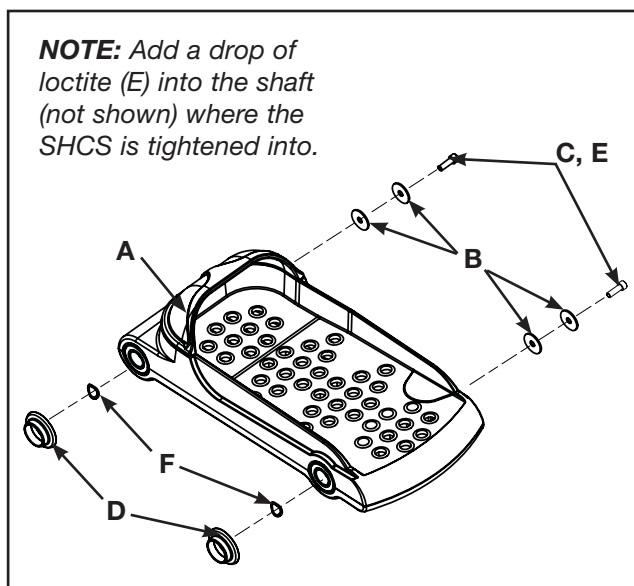

Figure 2 (left foot assembly)
- A. Turn the main power switch above the power inlet to the off (O) position.
- A. Install the new spacers (D) and wave washers (F) onto the foot plate shaft as shown in Figure 2.
- B. Slide the new foot plate (A) onto the foot plate shaft.
- C. Place a drop of loctite (E) on one of the SHCS (C). Place another drop of loctite in the shaft (where the SHCS will be tightened into).
- D. Install two flat washers (B) and SHCS (C) and securely tighten.
- E. Repeat steps 4C and 4D for the other washers (B) and SHCS (C).